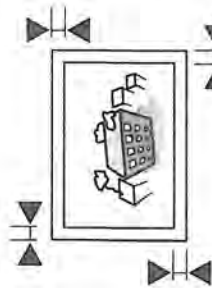

Figure 1
- Plug the power cord into the appropriate power source. Turn the I/O switch to the ON (I) position to begin the warm up process.
- Center the item to be laminated into a laminating pouch (figure 1), so the borders are even on all sides.